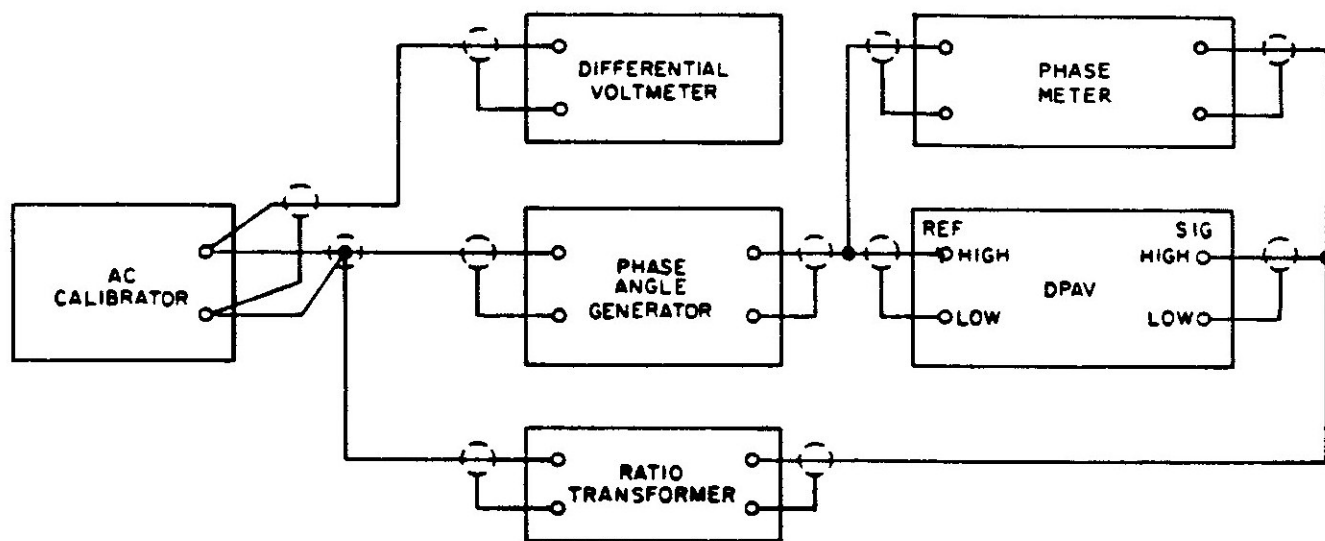

Figure 6-6. A/D Converter Phase Sensitive Voltage Test Set-Up
a.	Set up test equipment shown in figure 6-6.
p.	Set up test equipment as shown in figure 6-6.